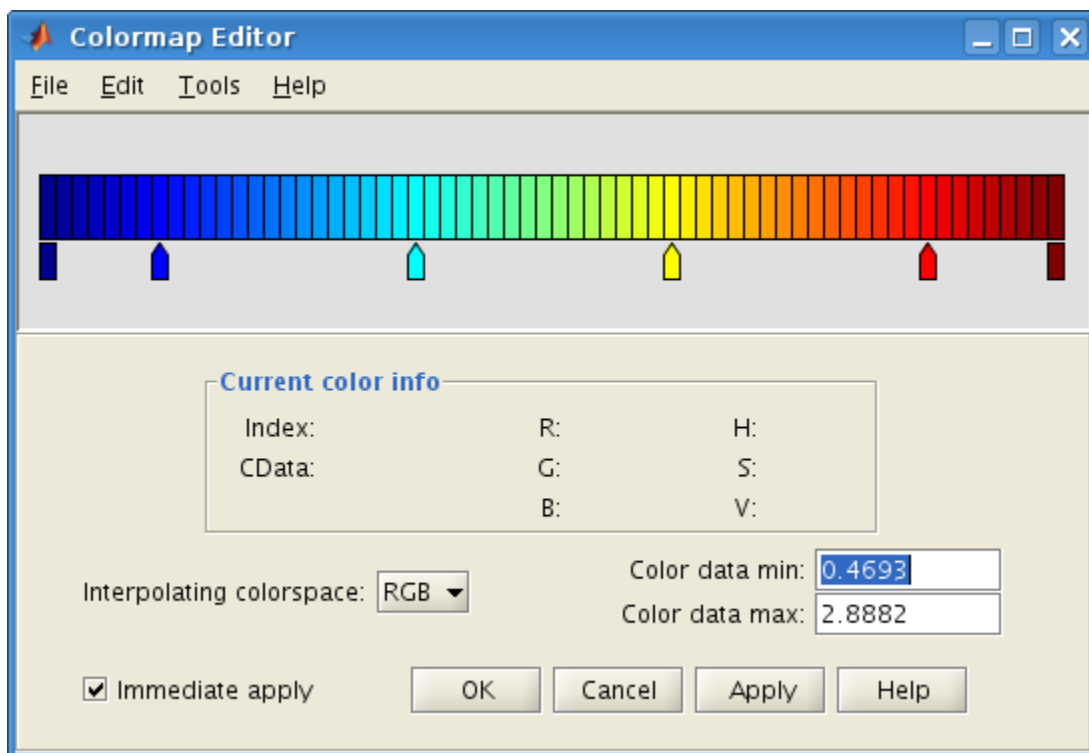

Figure 6: The colormap editor. Insert, delete slide color values. See help for more info.
- Color Editor → Click this to open the color map editor in order to manual adjust colors with values (figure 6). (*NOTICE that you should first select the desired number of colors*)